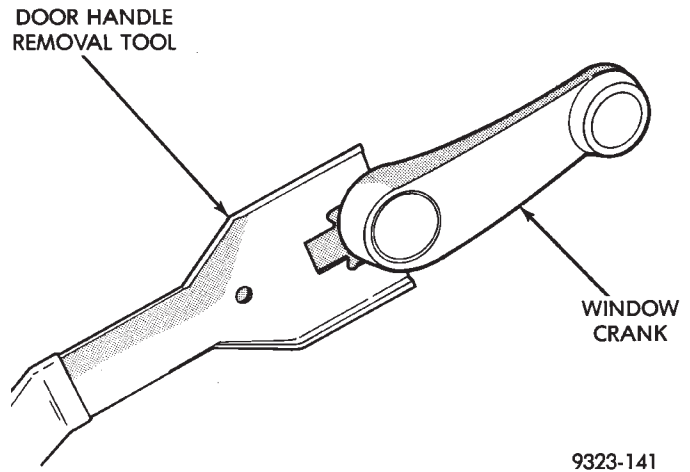

Fig. 33 Window Crank
- (1) Using a door handle removal tool, disengage clip holding window crank to regulator and separate crank from door, if equipped (Fig. 33).
- (2) If wire harness must remain with door, disengage clips holding power window switch panel to trim panel and separate switch panel from door. Disconnect wire connector from switch, if equipped.
- (3) If wire harness is to remain with door trim panel, disconnect door jamb connector. Remove fasteners holding wire harness close-out cover to door end frame. Disengage push-in retainers holding door opening weatherstrip to door end frame. Pull harness from under weatherstrip.